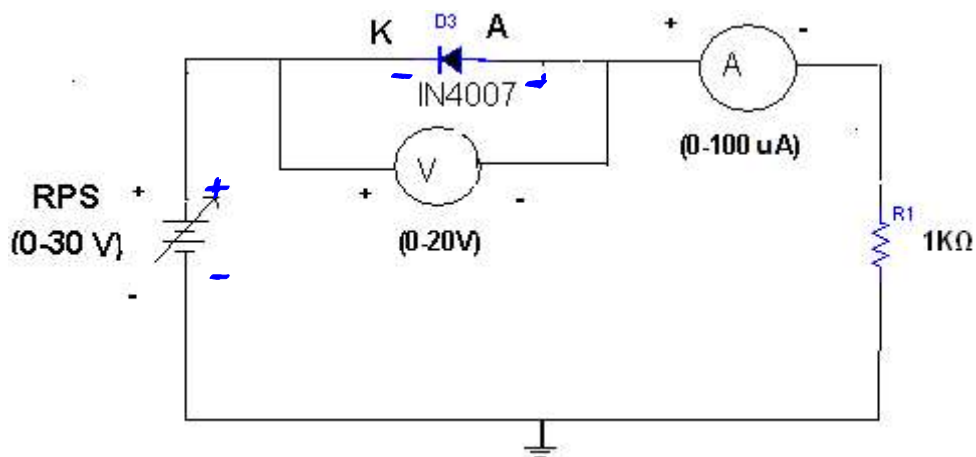

Fig. 3.2: Reverse bias
1. Connections are made as per the circuit diagram shown in Fig. 3.2